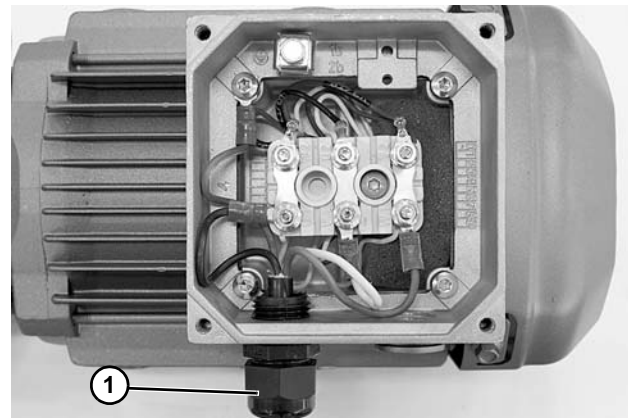

Figure 16
3. Install cord grip and power cord (Figure 16, item 1) mount to terminal box as required.